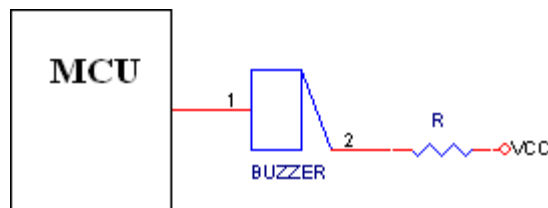

Figure 4, buzzer connection
1. Connect a buzzer as shown in Figure 4. Choose R to not exceed the MCU PIN maximum current I_{OL} . Indicate your selected clock source and frequency.
1. As before, connect a buzzer as shown in Figure 4.